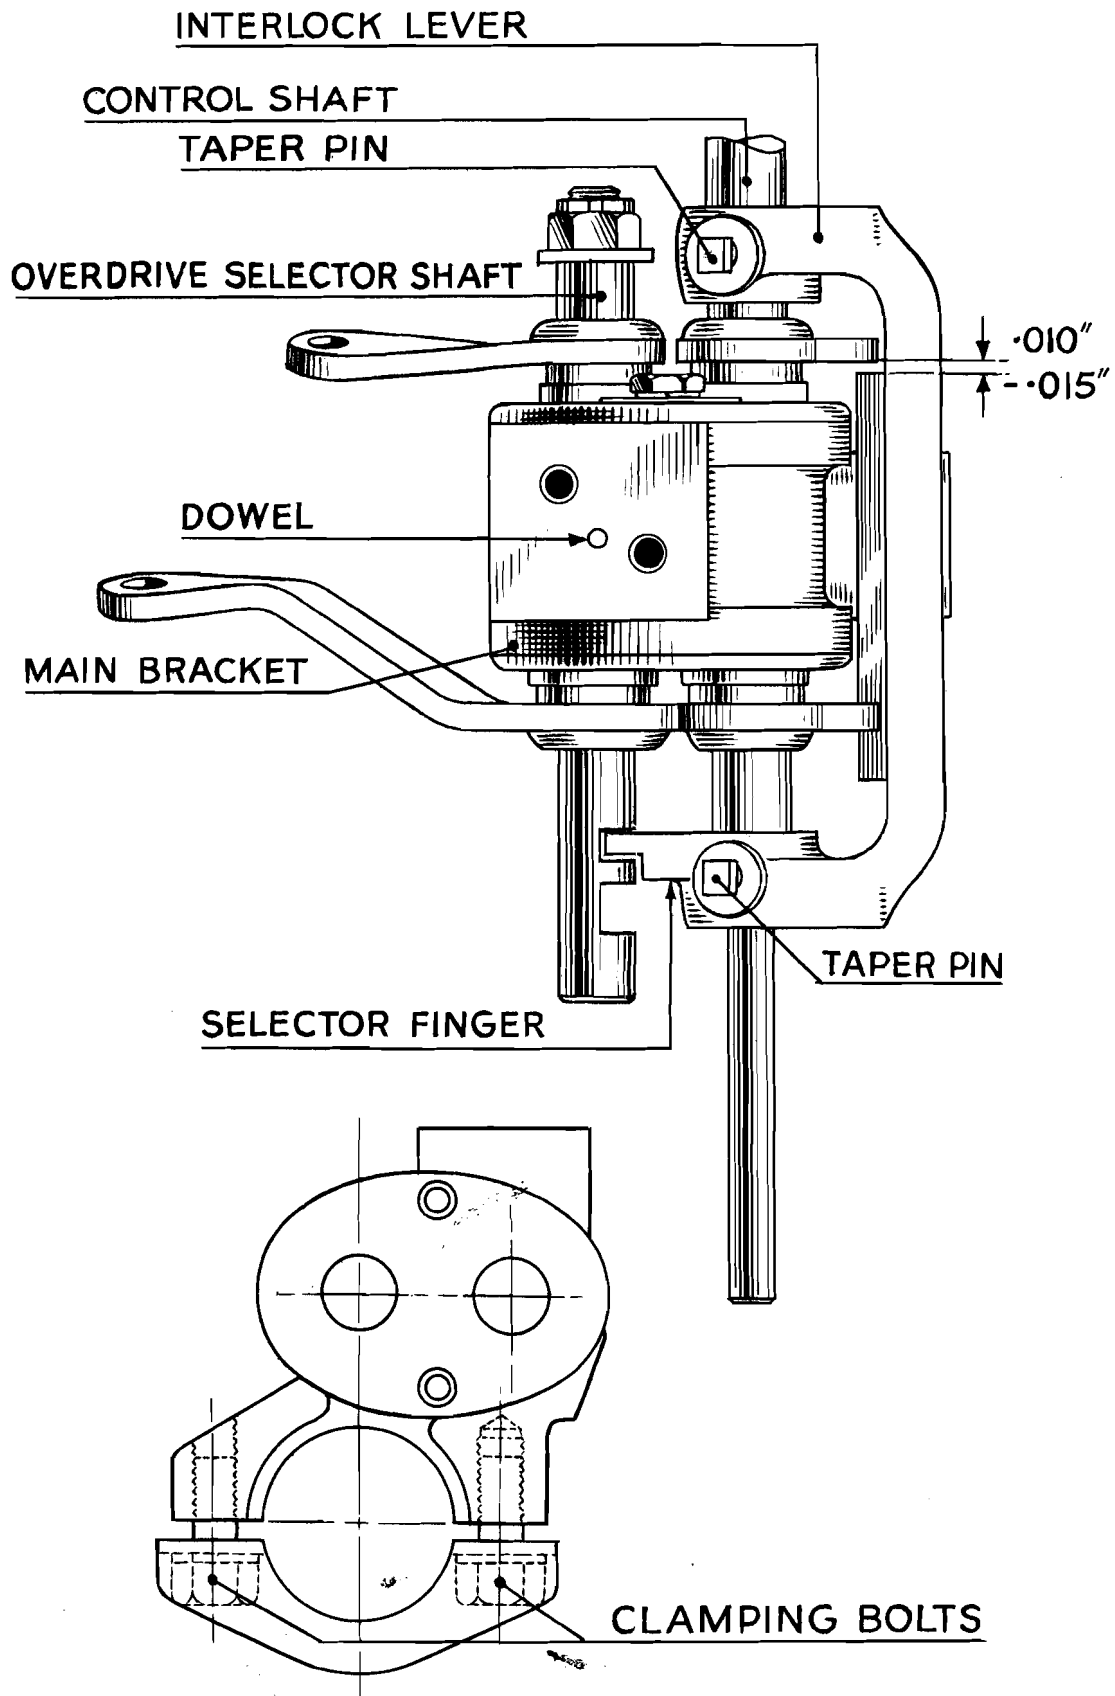

Fig. 11. Showing correct clearance on interlock lever spline with hand lever held (as shown in Fig. 10).
23. Remove reverse switch bracket and the dowel shown in Fig. 11 so that the overdrive selector shaft can be rotated.
24. Feed the intermediate bracket on to the steering column, passing the control shaft through the interlock lever (See Fig. 11). Insert taper pins and secure. Placing this assembly in a vertical plane tap it into position until there is a clearance of  $.010$ — $.015$ " between the "Second" and "Top" quadrant and interlock key as shown in Fig. 11. Secure the clamping bolts shown in illustration.
34. Fig. 11 and then engage "Top" Gear by moving the hand lever.